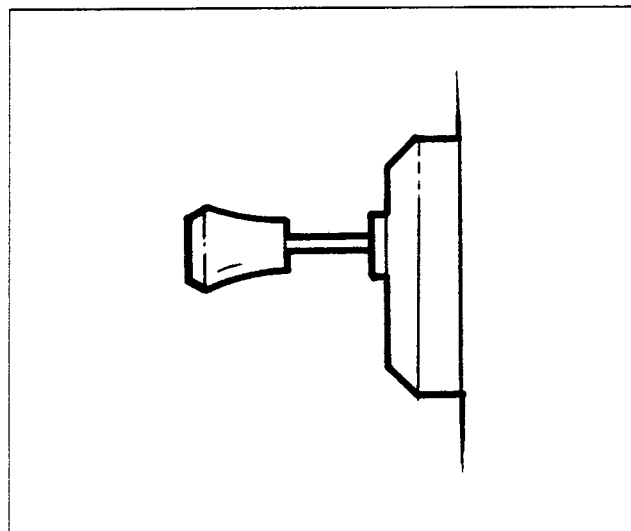

Figure 1. Enrichener Knob fully out
BE SURE THROTTLE IS CLOSED. See Figure 1. Pull enrichener knob fully out. Turn the ignition switch on and press starter switch to operate the electric starter.
1. See Figure 1. If the outside temperature is less than 50° F., ride for 5 minutes or 4 miles with enrichener knob fully out.
1. See Figure 1. If the outside temperature is greater than 50° F., ride for 3 minutes or 2 miles with enrichener knob fully out.